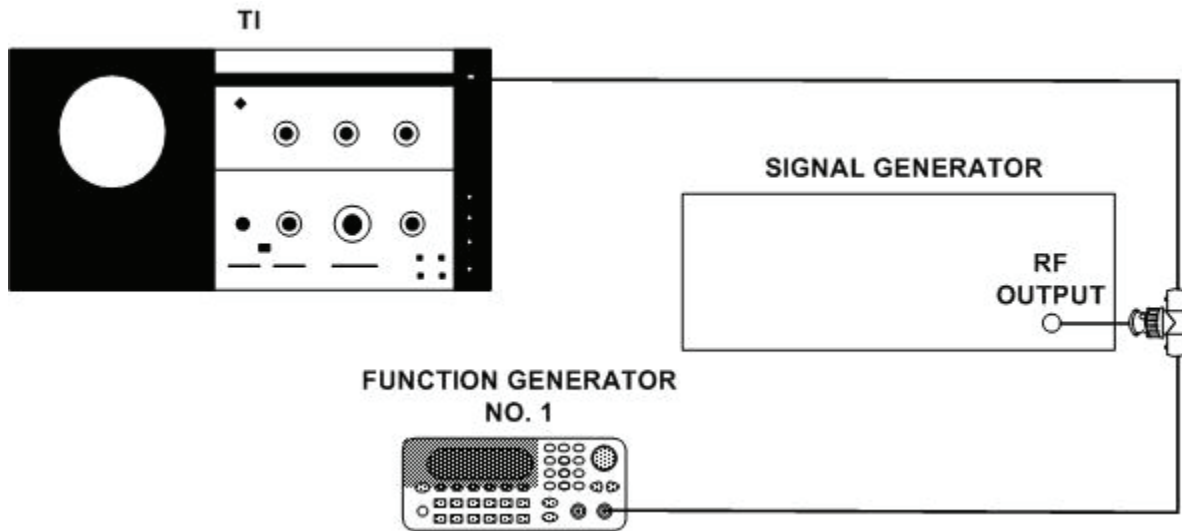

Figure 9. Spurious response - equipment setup.
- (1) Connect equipment as shown in figure 9.
- (2) Position TI controls as listed in (a) through (g) below: